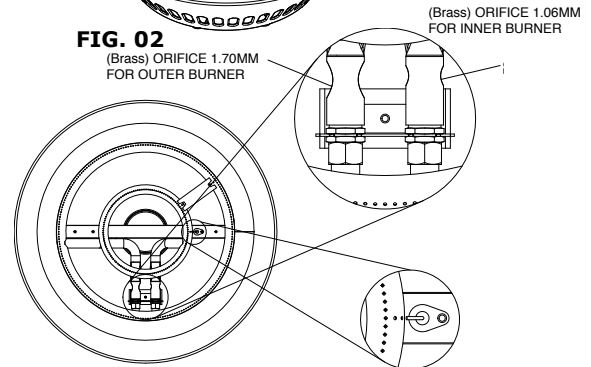

FIG. 03
- 4) After the replacement, properly locate and re-attach the burner kit with respect to the orifices. Adjust the igniter tip located near the burner edge. (FIG. 03)